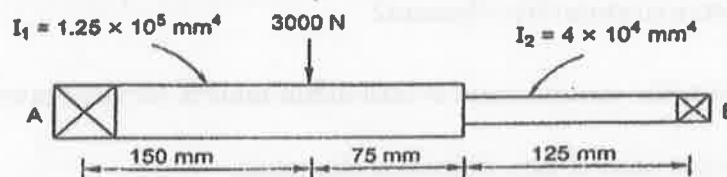

Fig. 3
- (b) Find the deflection at the point load and slope at the ends for the steel shaft, which is simply supported at the bearing and B as shown in Figure 3. Take $E = 200 \text{ GPa}$.